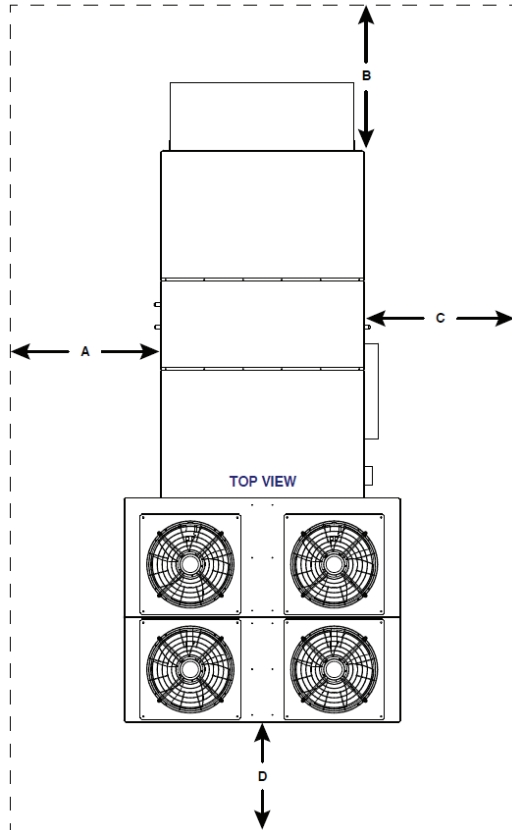

Fig. 2 — Required Clearances
- Do not locate adjacent unit condenser sections closer than 6 ft to one another to reduce the possibility of condenser air circulation. Follow the minimum required clearances listed above or in Fig. 2 and Table 3, whichever is greater.